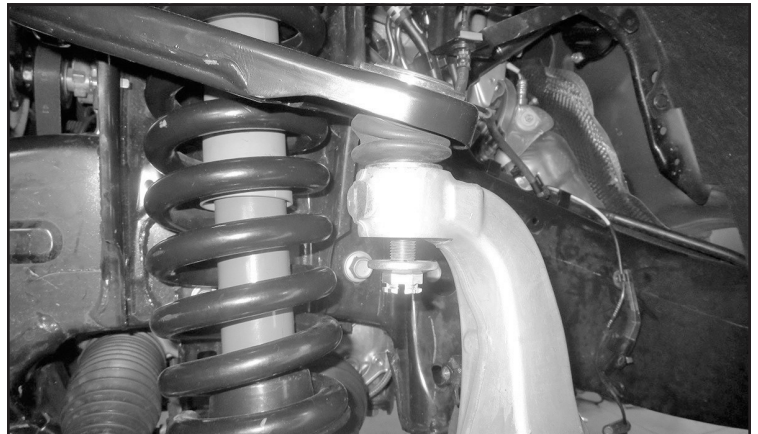

FIGURE 3 - STEP 4
4. Remove the cotter pin from the tie rod end ball joint nut. Loosen the nut and using a hammer strike the knuckle ball joint housing to dislodge the upper control arm from the knuckle. Do not remove the nut at this time. SEE FIGURE 3